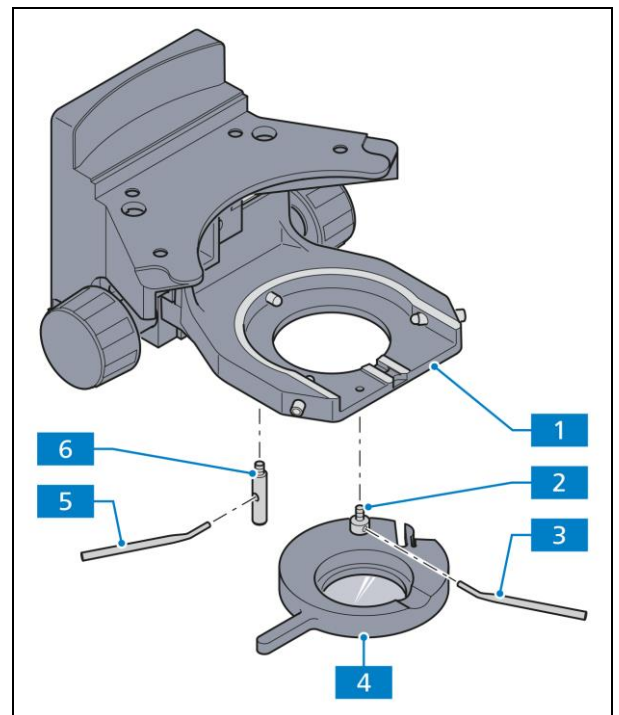

Fig. 3-28 Mounting the polarizer D
- Hold the polarizer or filter holder (Fig. 3-28/4) parallel to the underside of the condenser carrier (Fig. 3-28/1) and screw the holding pin (Fig. 3-28/2) of the polarizer (Fig. 3-28/4) with the angled adjusting lever (Fig. 3-28/3) into the front left threaded hole below the condenser carrier as far as it will go.
- Screw the locking pin (Fig. 3-28/6) with the adjusting lever (Fig. 3-28/5) as far as it will go into the rear threaded hole of the condenser carrier.